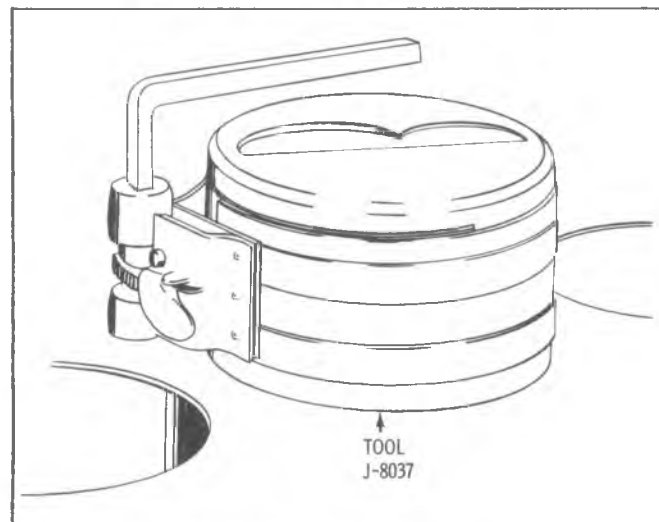

Fig. E-68—Piston Ring Compressor
2. Apply engine oil to rings and piston, then install piston ring compressing tool on piston. (Fig. E-68)